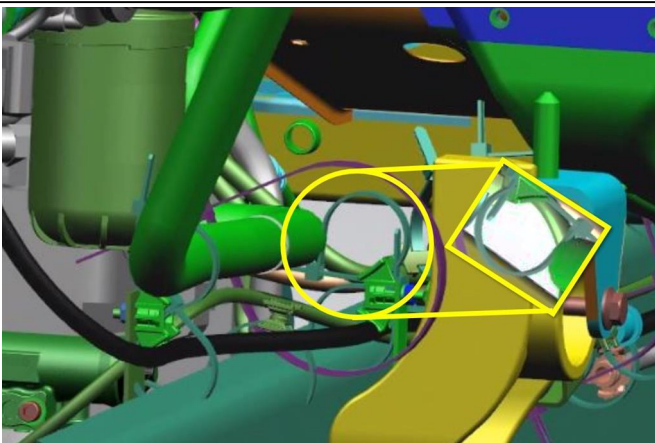

Figure 4: Rearward projection- Sharp Edge rotated to away
- 4. Tie straps located near the driver side motor mount shall have the sharp trimmed edges of tie straps rotated away from the Air Compressor Inlet Hose so sharp edges face the motor mount (Figure 4)